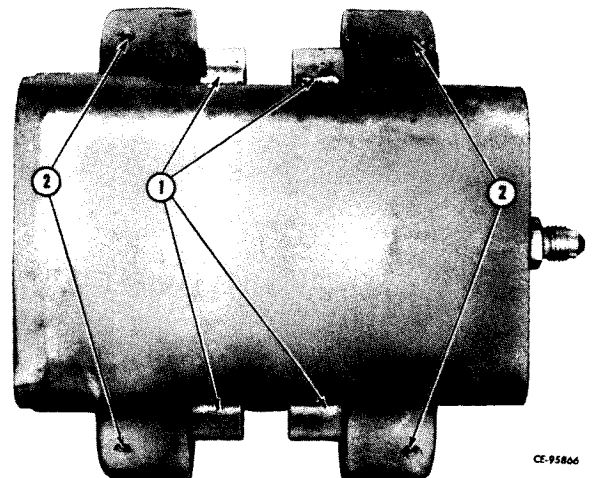

Figure 13-13
Remove set screw (2, Fig. 13-13) in housing to release carrier guide pins (1). Remove pins.
Install carrier guide pins (1, Fig. 13-13) in their housing bores and secure with set screws.